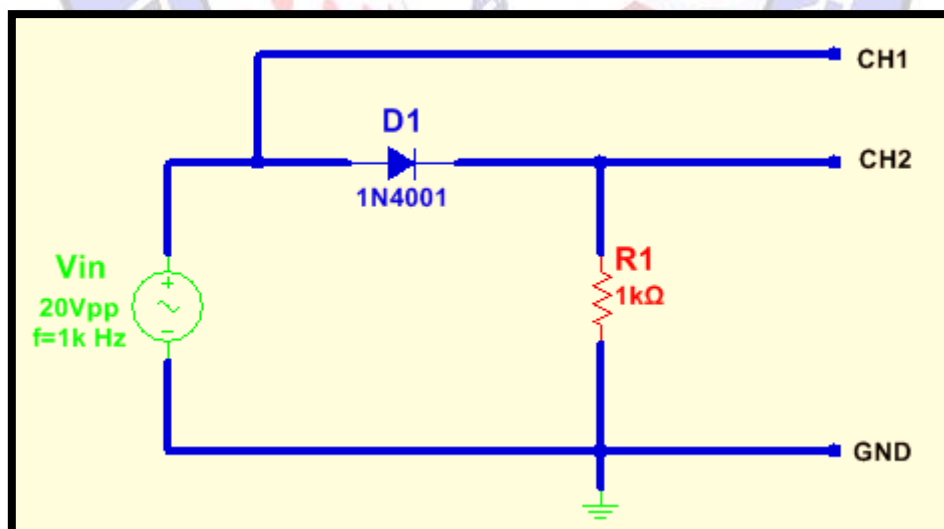

Figure 9: Practical Unbiased Series Clipping Circuit
3. Connect the series clipping circuit shown in Fig.9, and apply a 20Vpp sinusoidal input waveform with frequency of 1 kHz at the input. Display and sketch the input and the output waveforms.